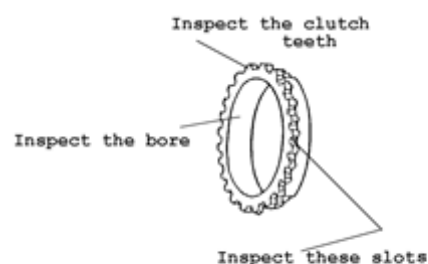

FIG. 20
- Inspect the synchronizer blocking rings for widened index slots, rounded clutch teeth and smooth internal surfaces. See Fig. 20.